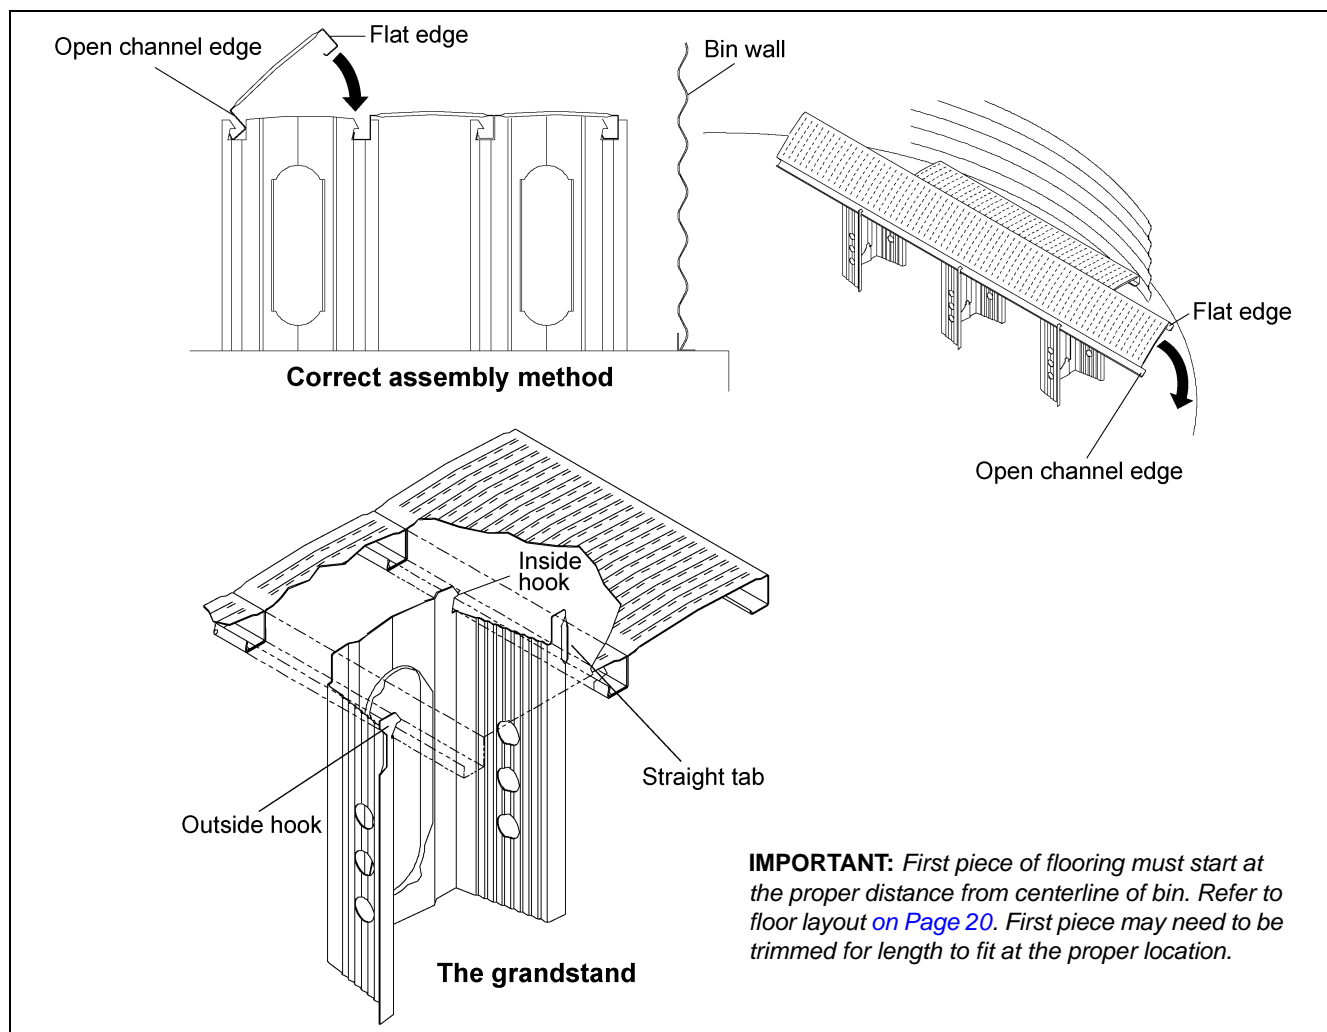
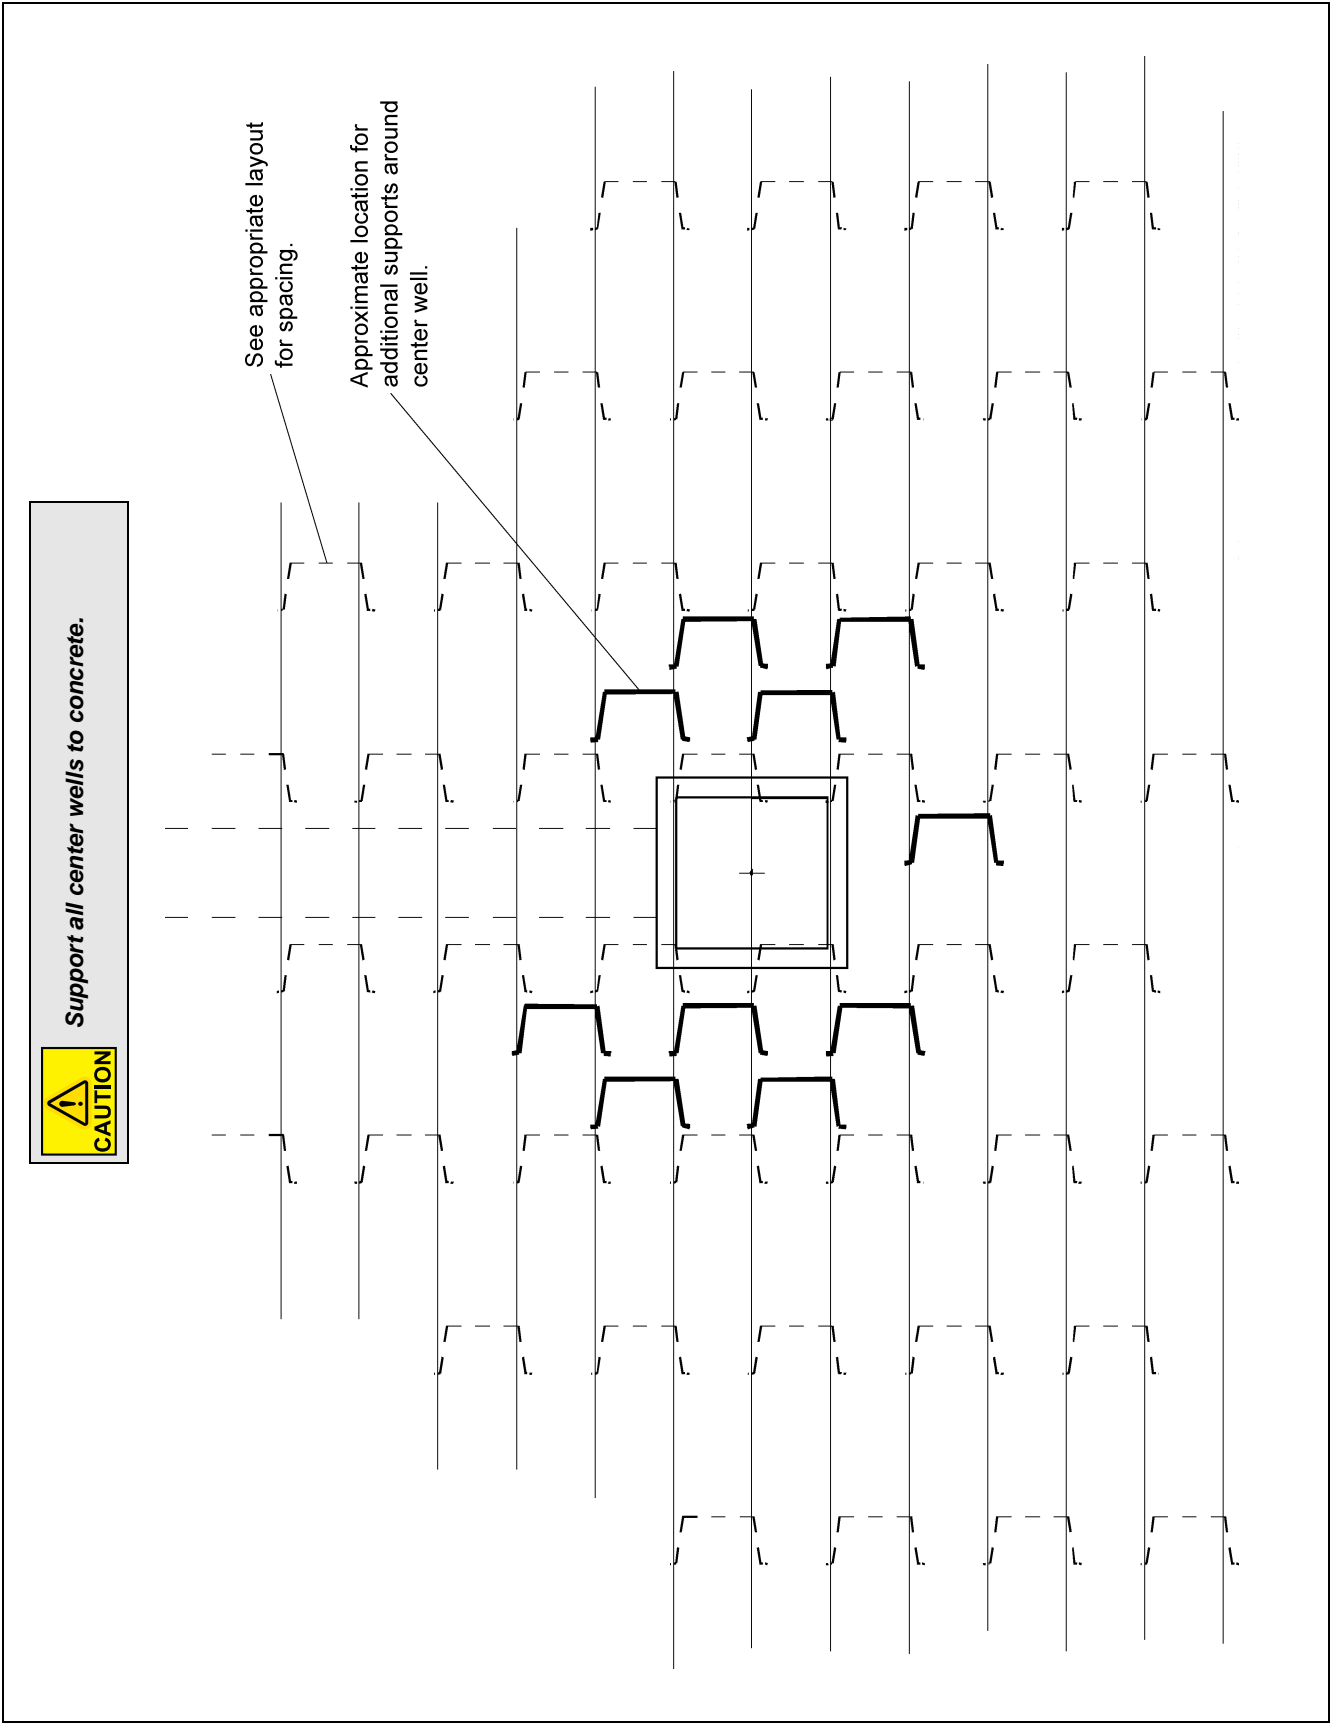
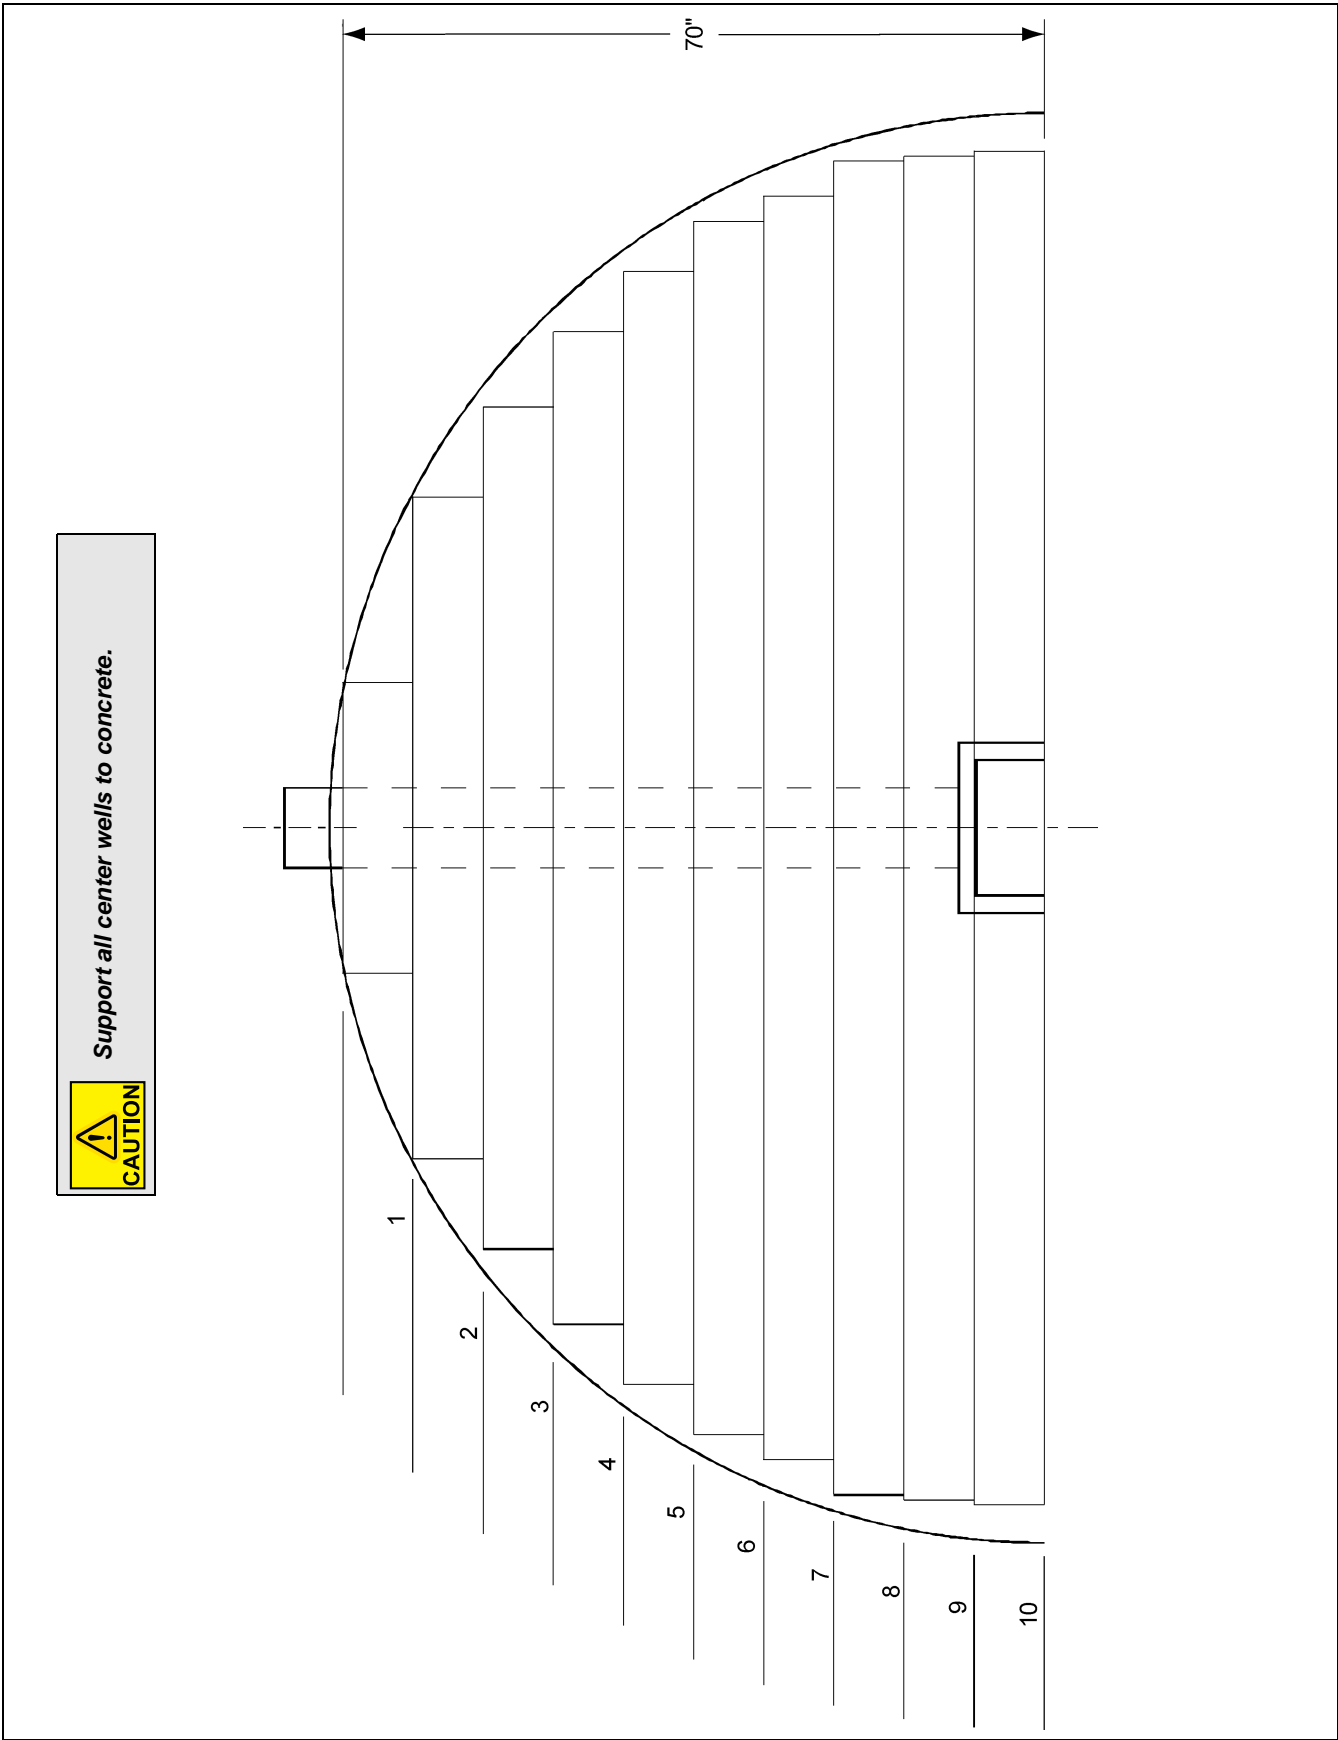

Figure 4C
Figure 7A
Figure 8A
4. Install flooring starting at the bin wall on the opposite side of the unload auger. Floor planks should be placed perpendicular to the unload auger with the outside edge the correct distance from the center of the bin. (See Figure 8A on Page 20.) Be sure the flat edge of the floor plank is facing the bin wall and the open channel edge is facing towards the center of the bin. (See Figure 4C.) Position the supports for the first/shortest floor plank according to the number of bin rings and corrugation as shown in the illustrations on Pages 27-32 or stated in the charts on Pages 33-34. Attach the flashing to flooring and bin wall to hold plank in place. (See Page 18 for flashing installation.)
5. **POSITION THE NEXT ROW OF SUPPORTS ACCORDING TO THE CHALK LINES** and support layout. The straight tab should “snap” under the first (previous) floor piece. After the supports in the row are correctly positioned, install the next floor piece by hooking the open channel edge under the outside hooks of the floor supports. Push down sharply on the edge of the floor piece until it snaps into the previous floor piece. (See Figure 4C.) Continue this process for the rest of the floor cutting planks for center and intermediate wells as needed. See Figure 7A on Page 19 for center well support locations.